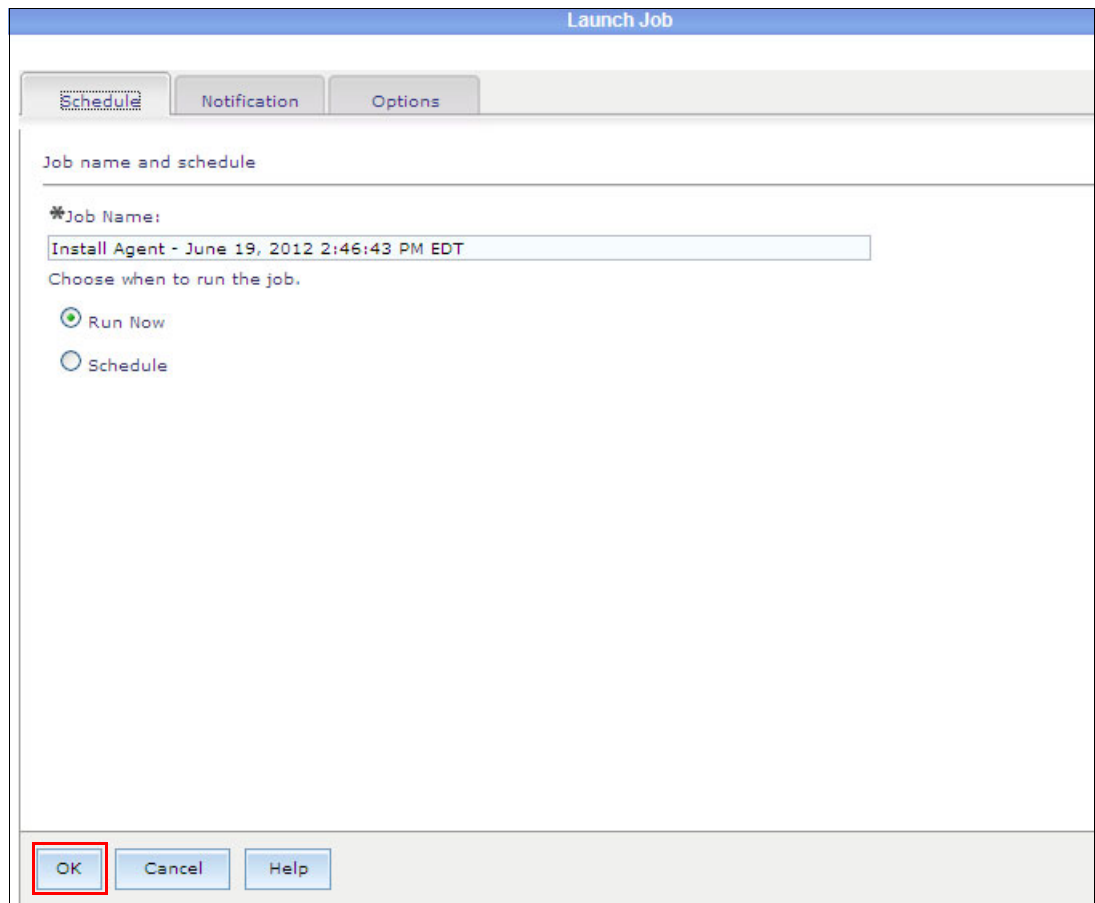

Figure 10-53 Agent Installation
7. A menu for the installation task opens as shown in Figure 10-53. Click **OK**.